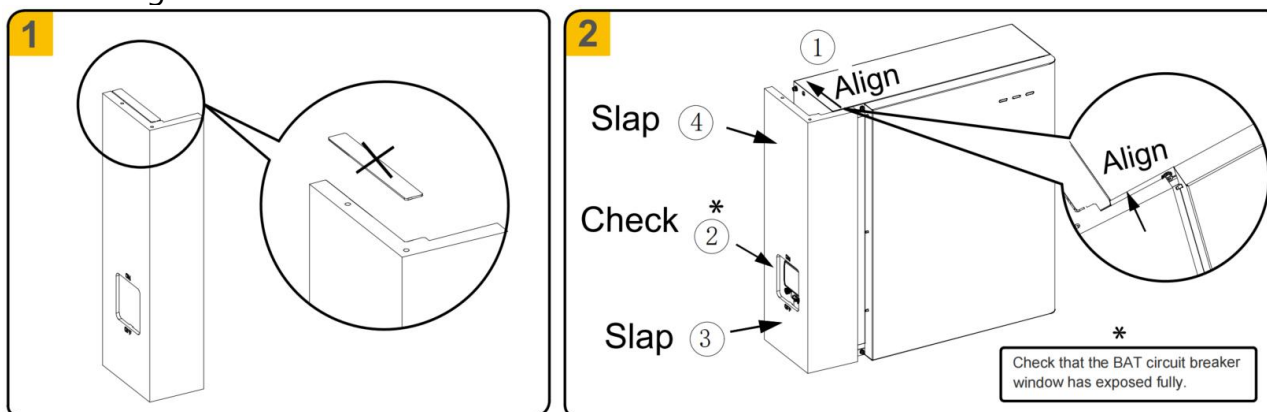

Figure 6-32 Install the cable cover for the battery
1. Mount the cable cover of the battery, Refer to 1-2 in Figure 6-32.